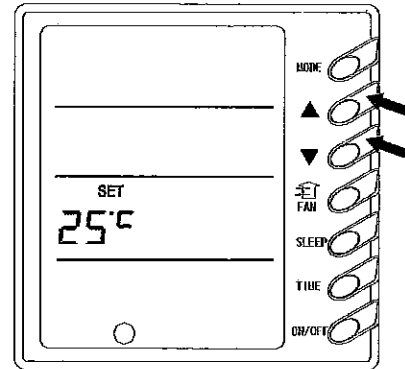

Fig 4
3) Temperature Setting (Figure 4):